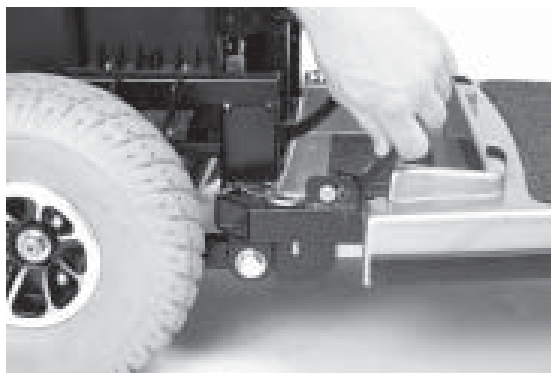

FIGURE 24. UNLOCKING THE CAMLOCK LEVERS
10. Move the camlock levers to the unlocked, vertical position. See figure 24.